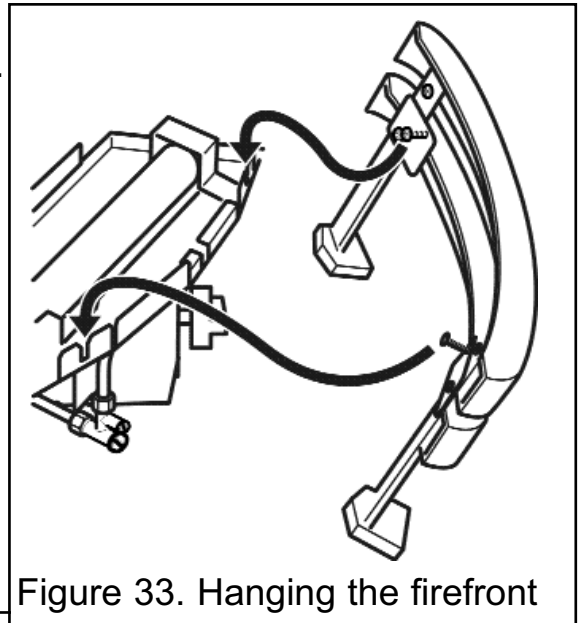

Figure 33. Hanging the firefront
3. Locate the firefront as in figure 33. The screw heads should locate into the slots in the burner tray.